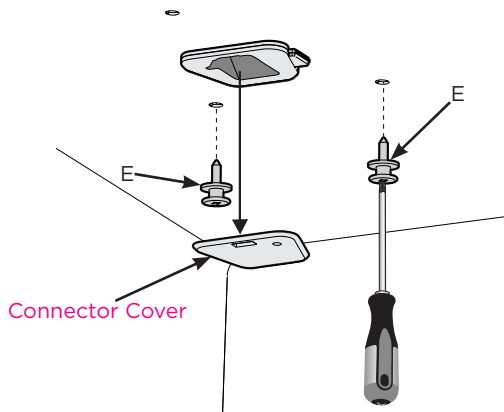

Figure 1
2. Use Phillips screwdriver to install two shoulder screws (E) in the upper rear holes. Turn until shoulder screws are in firm contact with freezer wall. (See Figure 1).